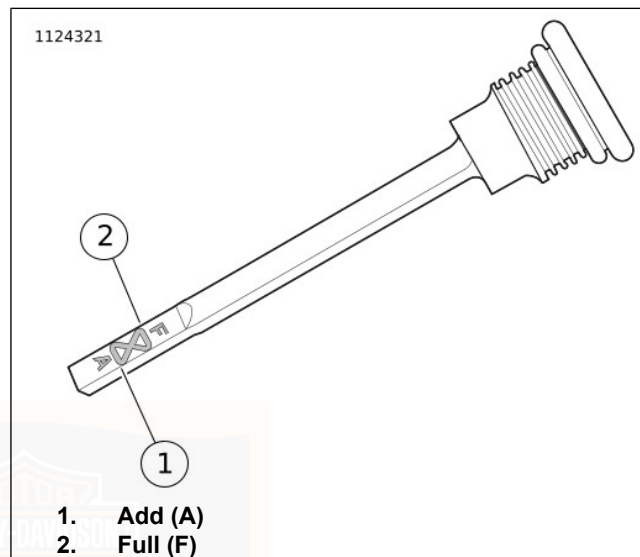

Figure 59. Transmission Lubricant Level
4. See Figure 59. Remove filler plug/dipstick. Check lubricant level on dipstick. Proper oil level is between the Add (A) (1) and Full (F) (2) marks.
6. Check lubricant level. Add enough lubricant to bring the level between the add (A) and full (F) marks. See Figure 59.